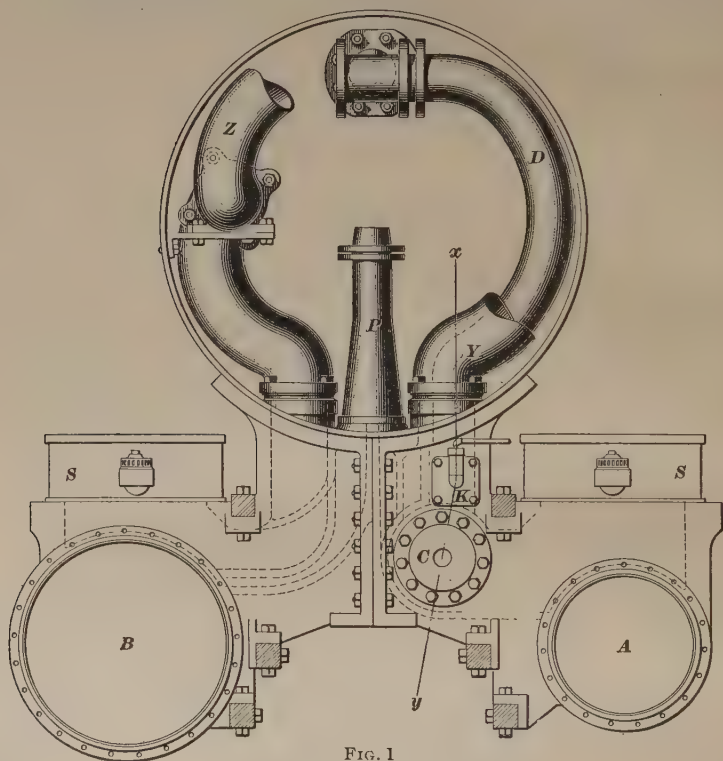

FIG. 1
1. General Arrangement.—The general arrangement of the high- and low-pressure cylinders and of the intercepting valve of the Baldwin two-cylinder compound locomotive is shown in Fig. 1. In this type of compound, the high-pressure and low-pressure cylinders are arranged similar to the cylinders of a simple engine, and the distribution of steam to the cylinders is effected by means of slide valves operating in the steam chests *S, S*. There is but one steam pipe *D* in the smokebox, and that connects with the steamway in the cylinder saddle that leads to the steam chest of the high-pressure cylinder *A*. The end *Y* of the receiver connects with a special passage in the saddle that leads to the intercepting valve *C*, while the other end *Z* of the receiver connects with the steam passage that leads to the steam chest of the low-pressure cylinder *B*. The exhaust pipe *P* connects with the regular exhaust passage leading to the low-pressure cylinder, and also, through a special passage, with the intercepting valve, which is situated in the same half saddle as the high-pressure cylinder; hence, by the action of the intercepting valve, as will be explained, the exhaust steam from the high-pressure cylinder may be made to go either through the receiver *YZ* and the cylinder *B* and its exhaust passage to
2. Intercepting Valve.—If the cylinder saddle, Fig. 1, were cut through on the line *xy*, and the high-pressure cylinder part removed, the left-hand part would present a sectional view of the intercepting and reducing valves similar to